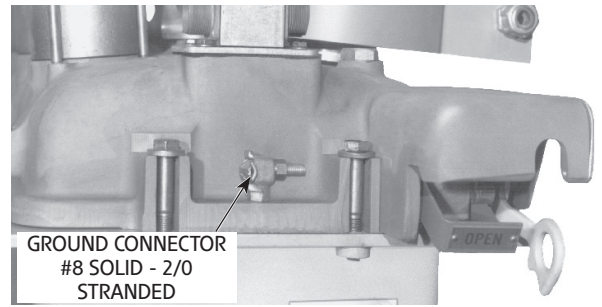

Figure 5. Ground connector on recloser head.
6. Ground the recloser. Make the ground connection to the recloser head and to the recloser control (Figure 5).